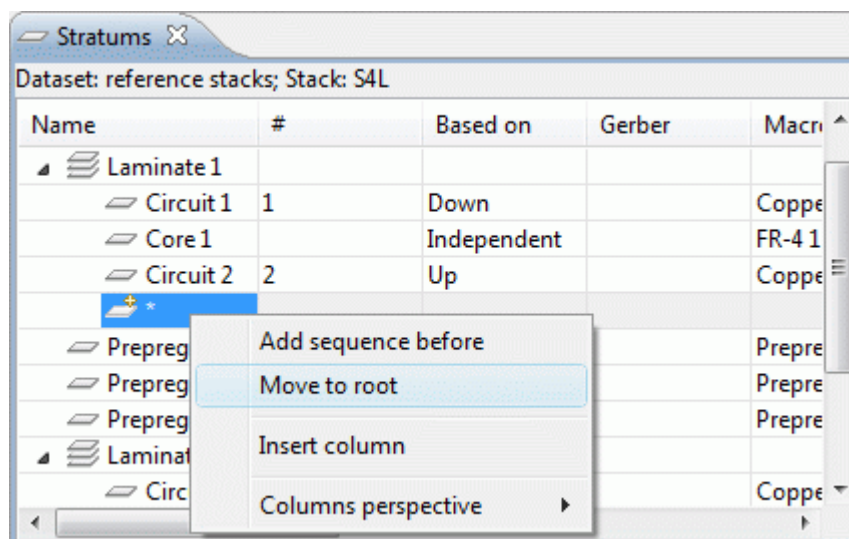

Figure 2. Context sensitive menu with selected Move to root menu item
- Select **Move to root** menu item (see Figure 2).